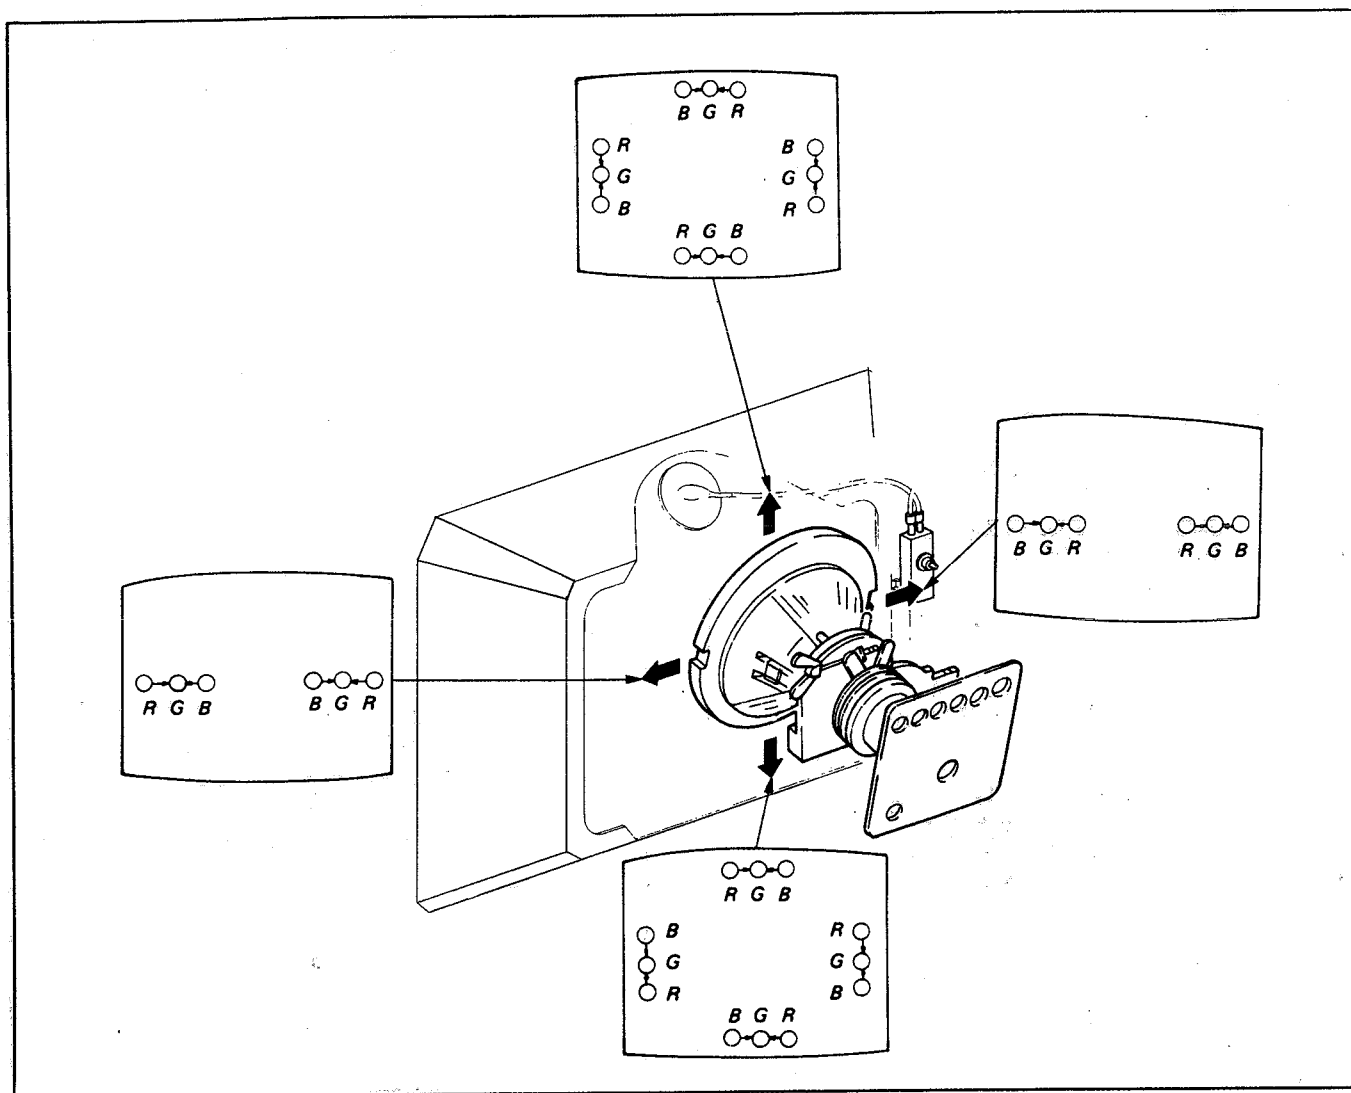

Fig. 7
3. Move the deflection yoke for best convergence as shown in Fig. 7.